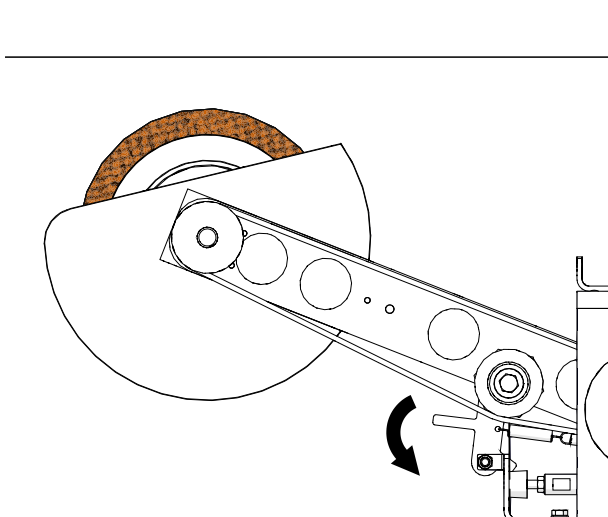

Fig. 16: Unlocking the latching hook
13. Release the grinding arms by pulling them down against spring force and unlocking the latching hook (see Fig. 16).